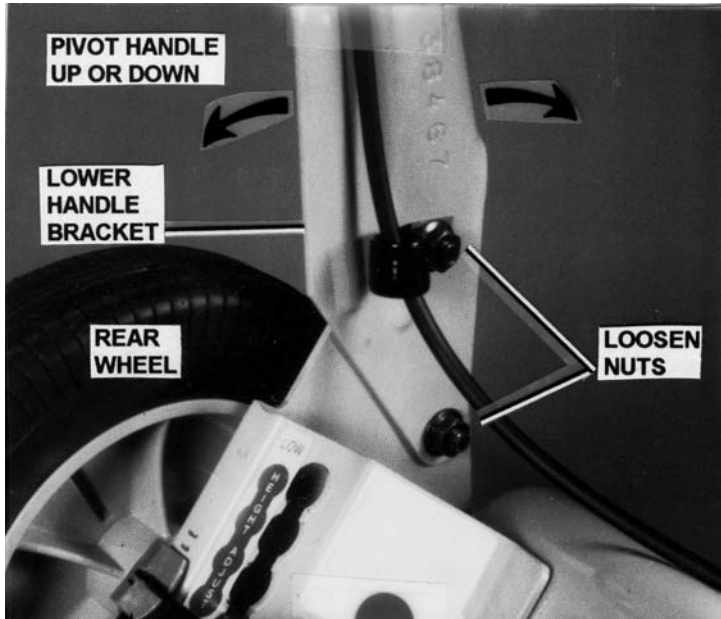

FIGURE 14
1. The height of the handle can be adjusted by loosening the four nuts located on the lower handle brackets and pivoting the handle up or down. Tighten all nuts securely. This provides 2 inches of adjustment. See Figure 14.